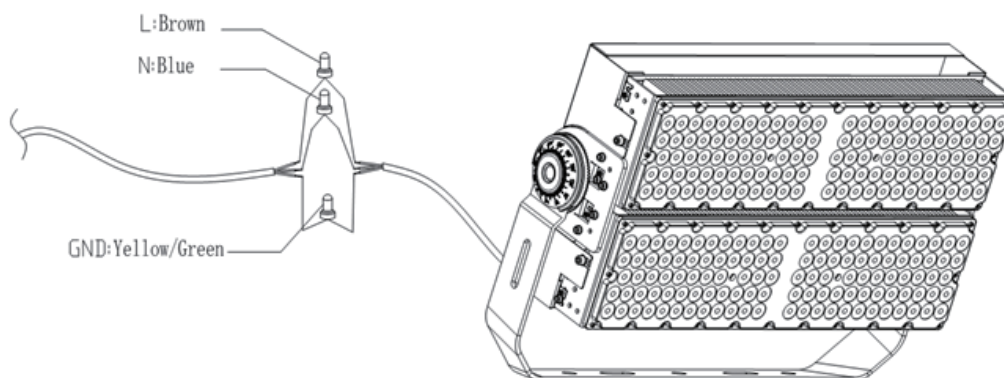

Figure 1. LED high pole light wiring
- Connect the wires in the lamp pole to the input wires of the LED high mast lamp, and make sure that "L", "N" and "GND" correspond to each other. See Figure 1.